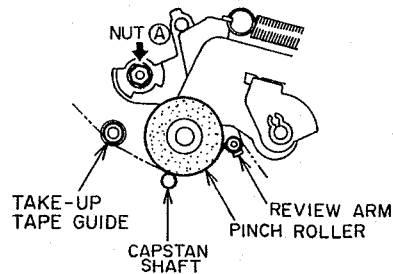
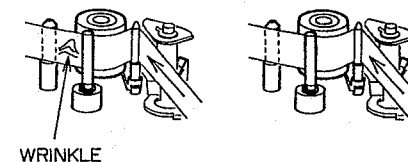

Fig. 4-6
Fig. 4-8
- 2) Turn the REVIEW ARM height (A) nut so that the edge of the tape barely touches the lower part of the TAKE-UP TAPE GUIDE, without any curl or wrinkle between the TAKE-UP TAPE GUIDE and the CAPSTAN SHAFT as shown in Fig. 4-6 to Fig. 4-8.
- 4) Confirm there is no curl or wrinkle near the REVIEW ARM's guide. If curl or wrinkle of the tape occurs, slightly turn the (A) nut (Shown in Fig. 4-6) until it disappears.